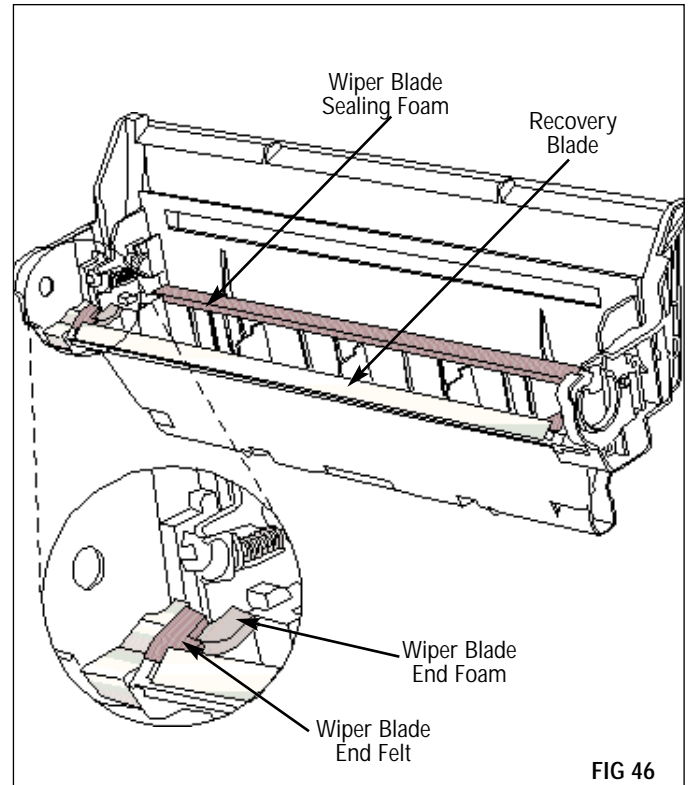

FIG 46
4. Inspect the wiper blade sealing foam, recovery blade, wiper blade end foams and wiper blade end felts (FIG 46). Foam components, such as the wiper blade sealing foam and wiper blade end foam should display a smooth surface without pits or tears in the material. Replace the foam if damaged or missing. Tears in the material can allow toner leakage.